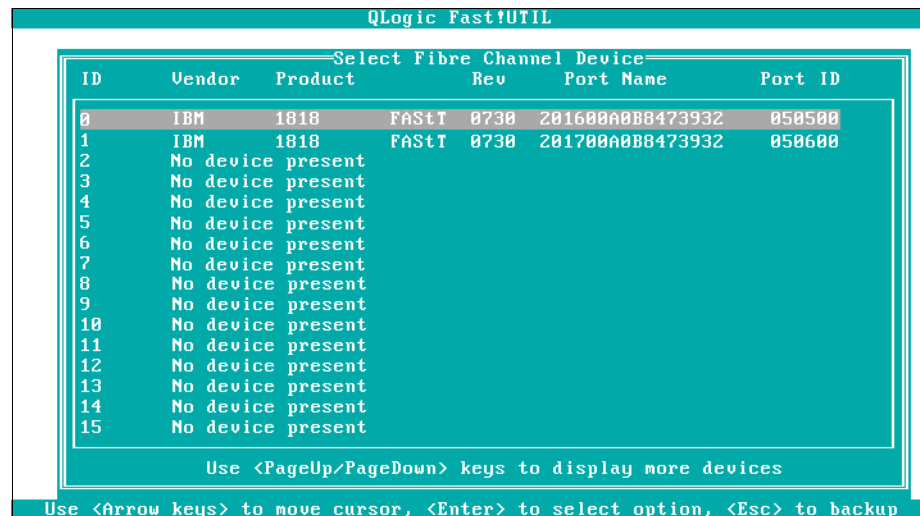

Figure 2-26 Selecting the Storage
5. You can then see the product type 1818, which is the DS5300 machine type. Select it and press Enter, as shown in Figure 2-26.